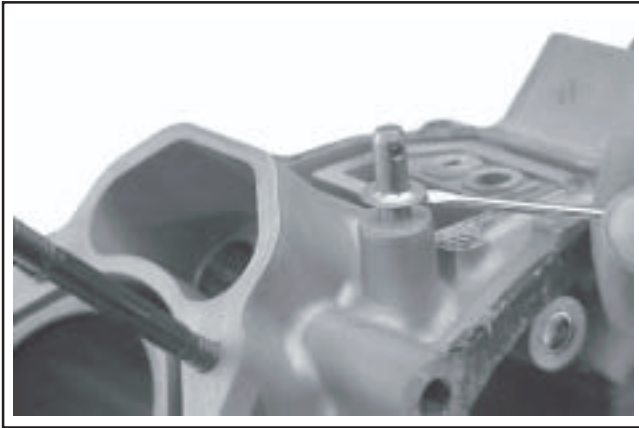

Figure 9-64. Removing Governor Shaft Retaining Ring and Washer.
1. Remove the retaining ring and nylon washer from the governor cross shaft. See Figure 9-64.